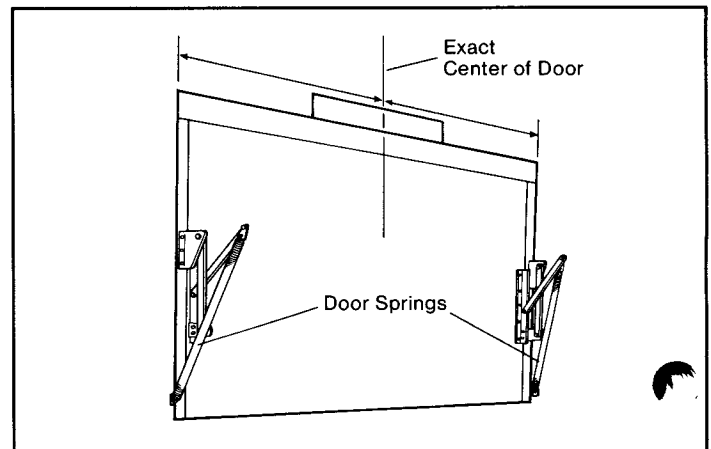

Figure 22
Trackless doors are one-piece doors which employ jamb-type counterbalance hardware as part of the lifting mechanism. They are sometimes called "California" doors. Typically, the one-piece door and its accompanying hardware appear as shown in Figure 22. Note that there is another type of one-piece, trackless door that operates on a pivot. This garage door operator is **not recommended** for use on the pivot type garage door.
Step 56: Establish the exact center of the door and mark that location on the header above the door as shown in Figure 22.